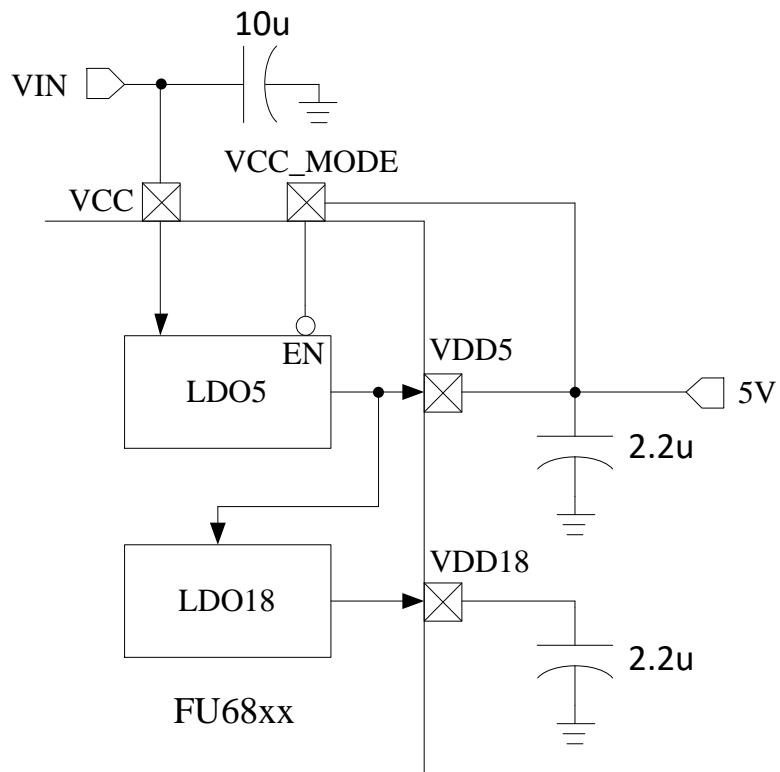

Figure 31-4 Dual-power Supply Mode
- Dual-power Supply Mode (VCC_MODE = 1): VCC \geq VDD5, VCC = 5 ~ 36V and VDD5 = 5V. See Figure 31-4 for details.